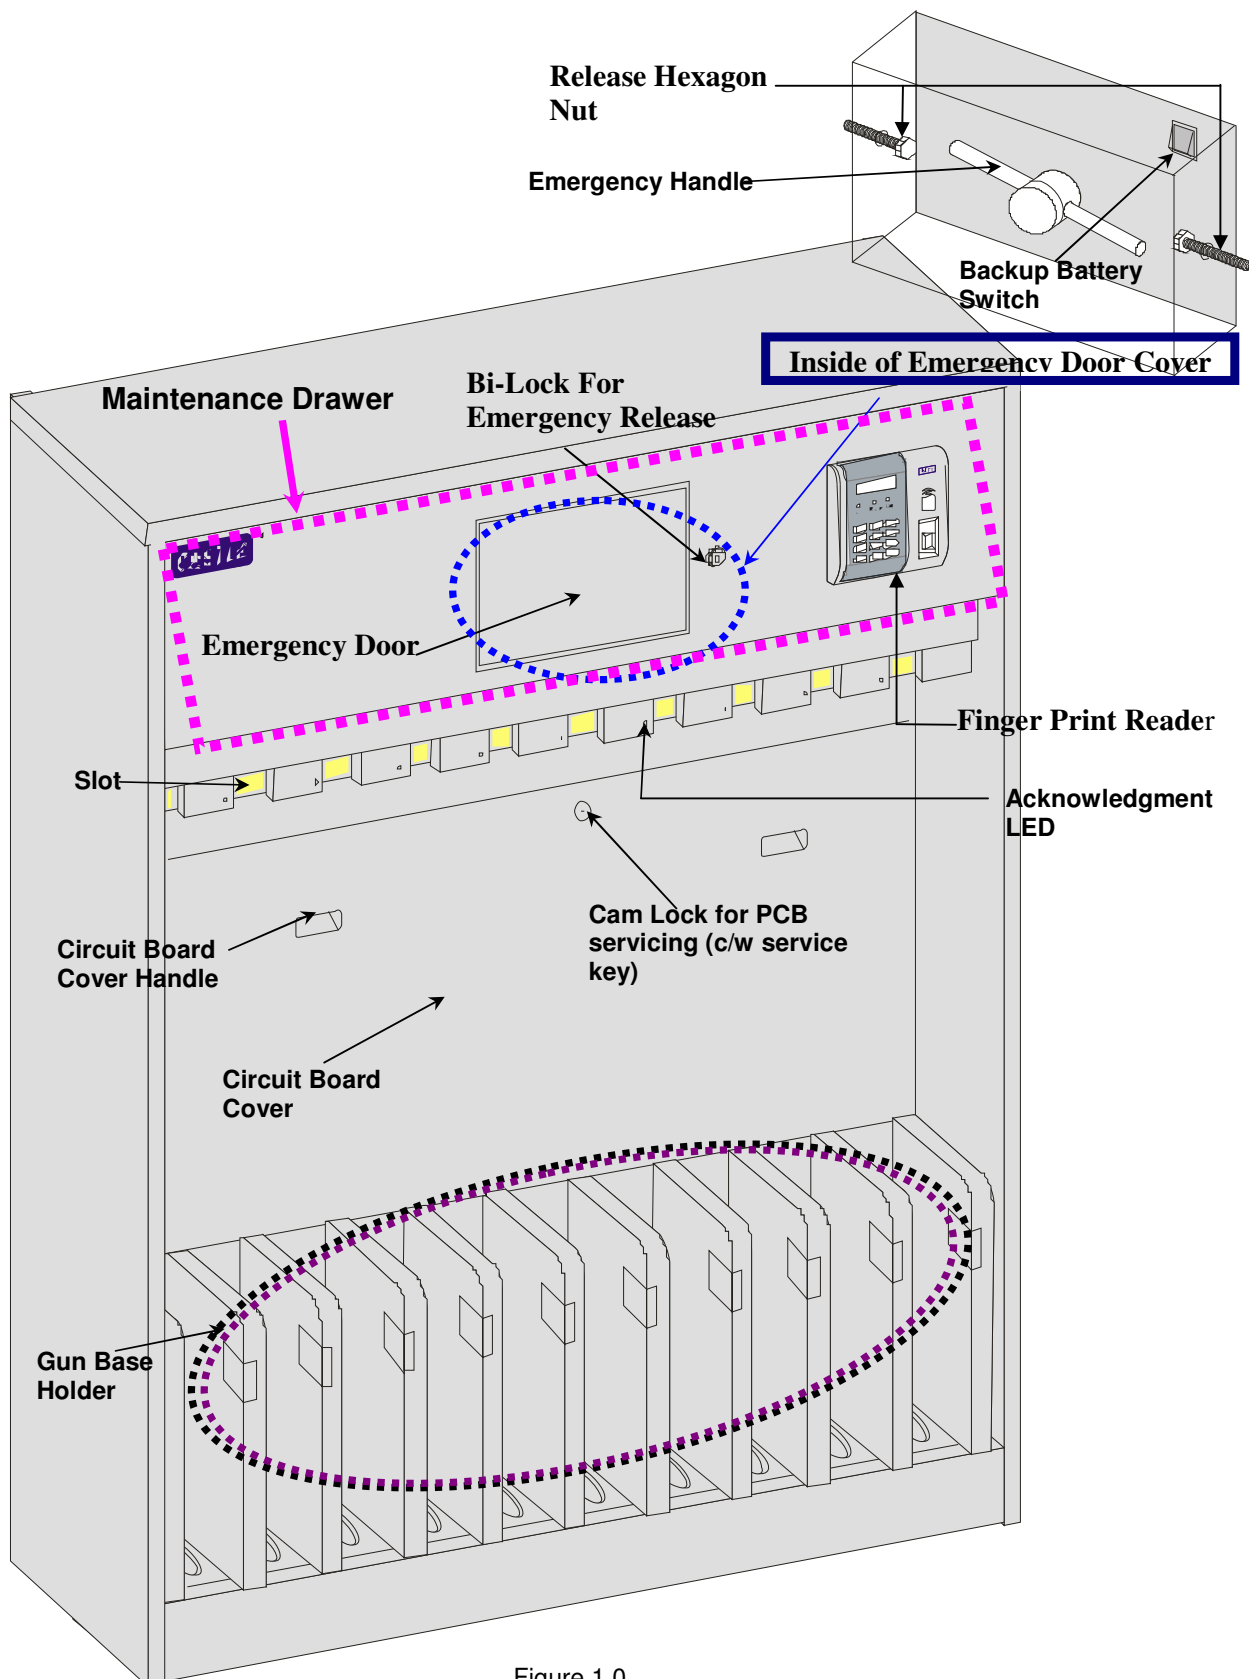

Figure 1.0
5. During operation, make sure Emergency door (Refer to Figure 1.0, page 8) is closed otherwise system will not able to function.
7. There is a backup battery switch (Refer Figure 1.0) as shown in photo. Need to switch ON for charging backup battery and to override power supply when power failure.